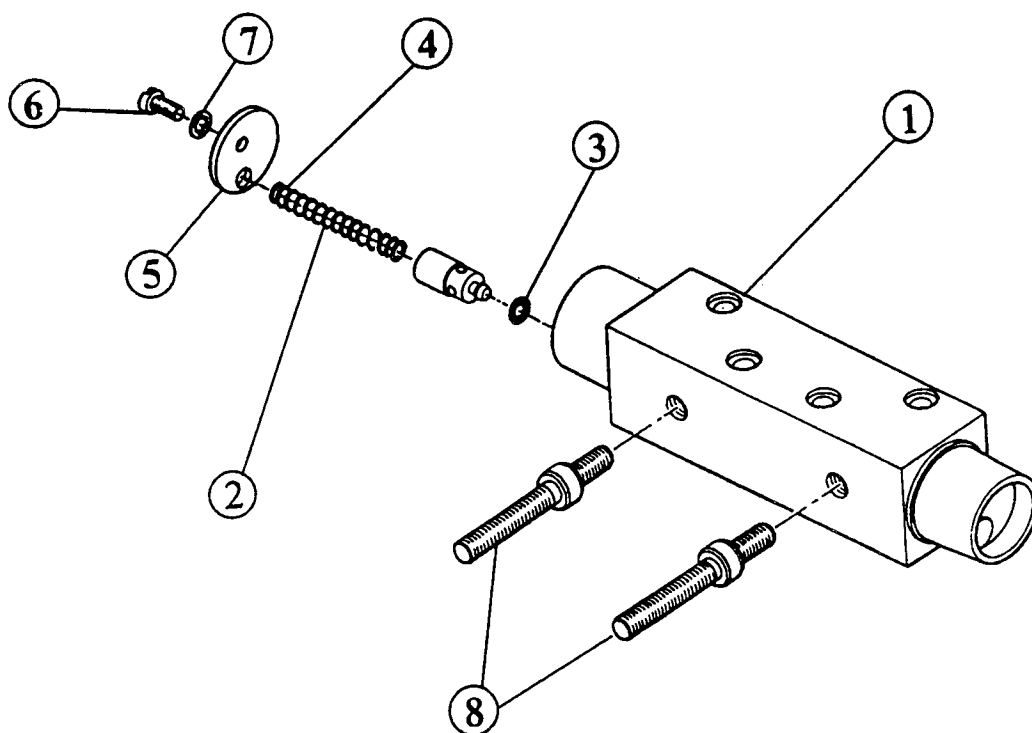

Fig. 8 Enflurane Connector Block
4.9 Connector Block Pressure Relief Valve (Fig. 8)